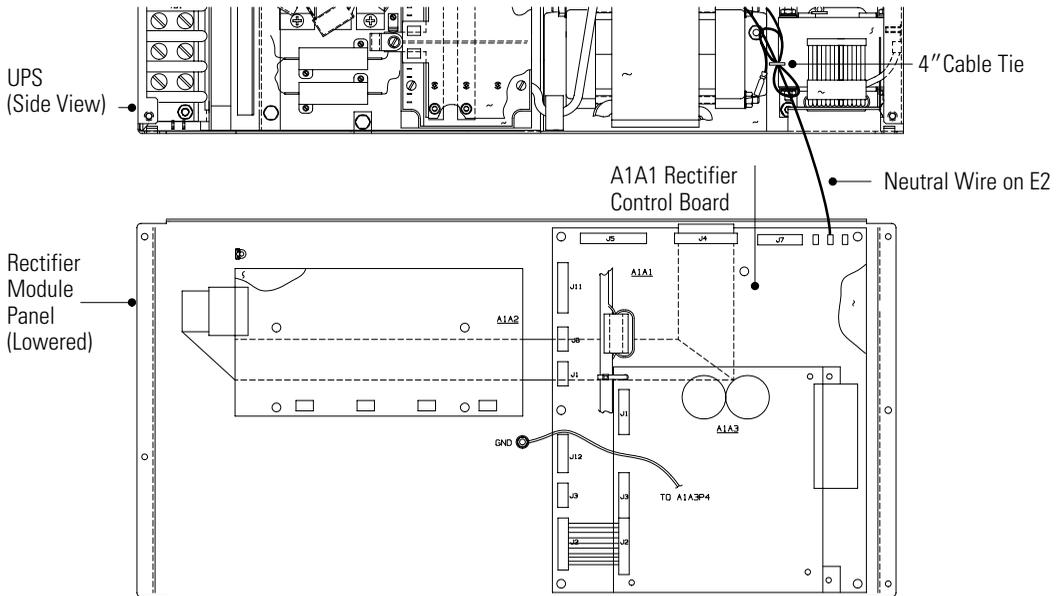

Figure 12. Charger Disabled for the 8 kVA – 18 kVA UPS
- Secure the disconnected wire to the neutral wire on the E2 terminal with the provided 4" cable tie (see Figure 12).